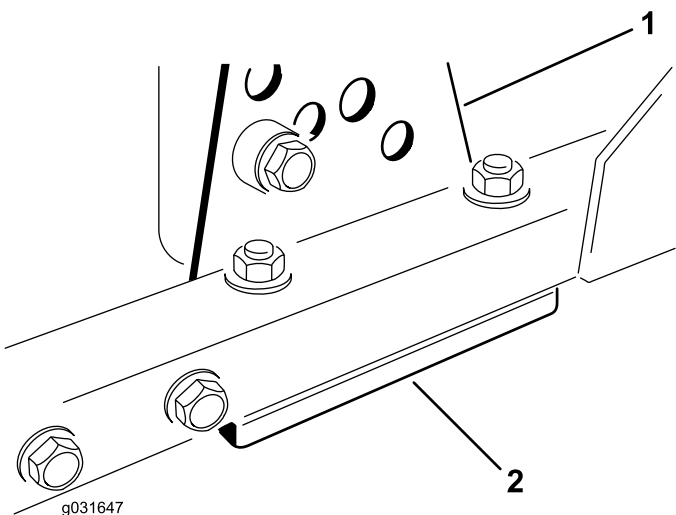

Figure 70
1. Remove the height-of-cut bracket (front, left, or right) from the cutting unit frame (Figure 70).
2. Adjust the 1.5 mm (0.06 inch) shims and/or 0.7 mm (0.03 inch) shim between the cutting unit frame and bracket to achieve the desired height of cut (Figure 70).
3. Install the height-of-cut bracket to the cutting unit frame with the remaining shims assembled below the height-of-cut bracket (Figure 70).